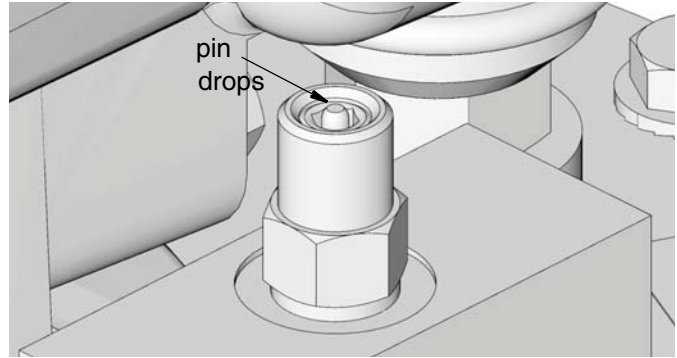

FIG. 16
Make sure Auto-Fill Shut Off (S) pin is down. See FIG. 16, page 16.